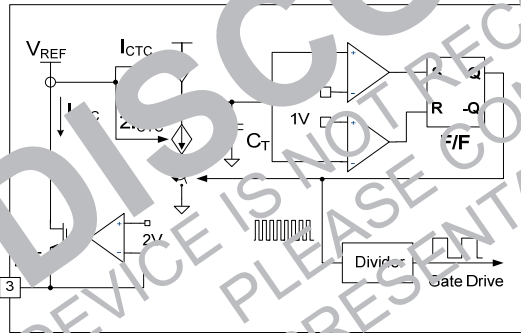

Figure 19. Current-Controlled Oscillator
**2. Internal Oscillator:** FSFR-HS series employs a current-controlled oscillator, as shown in Figure 19. Internally, the voltage of the RT pin is regulated at 2 V and the charging / discharging current for the timing capacitor,  $C_T$ , is obtained by copying the current flowing out of the RT pin ( $I_{CTC}$ ) using a current mirror. Therefore, the switching frequency increases as  $I_{CTC}$  increases.